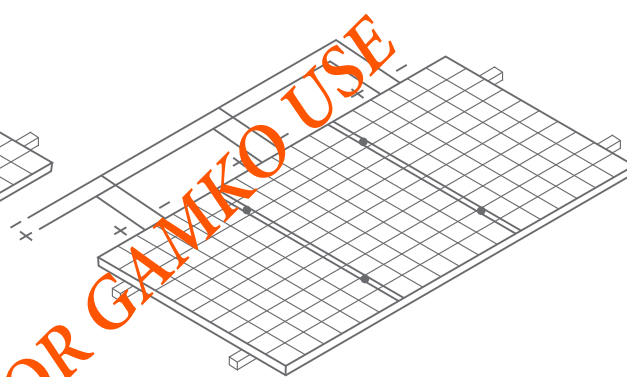

Figure 7
- When connected in parallel, the current output is equal to the sum of each string's current (shown in Figure 7). Fuse is necessary for each module string. Please take reference to the local regulation. Recommended maximum parallel Modules configurations: Fuse rating/ $I_{sc}+1$.